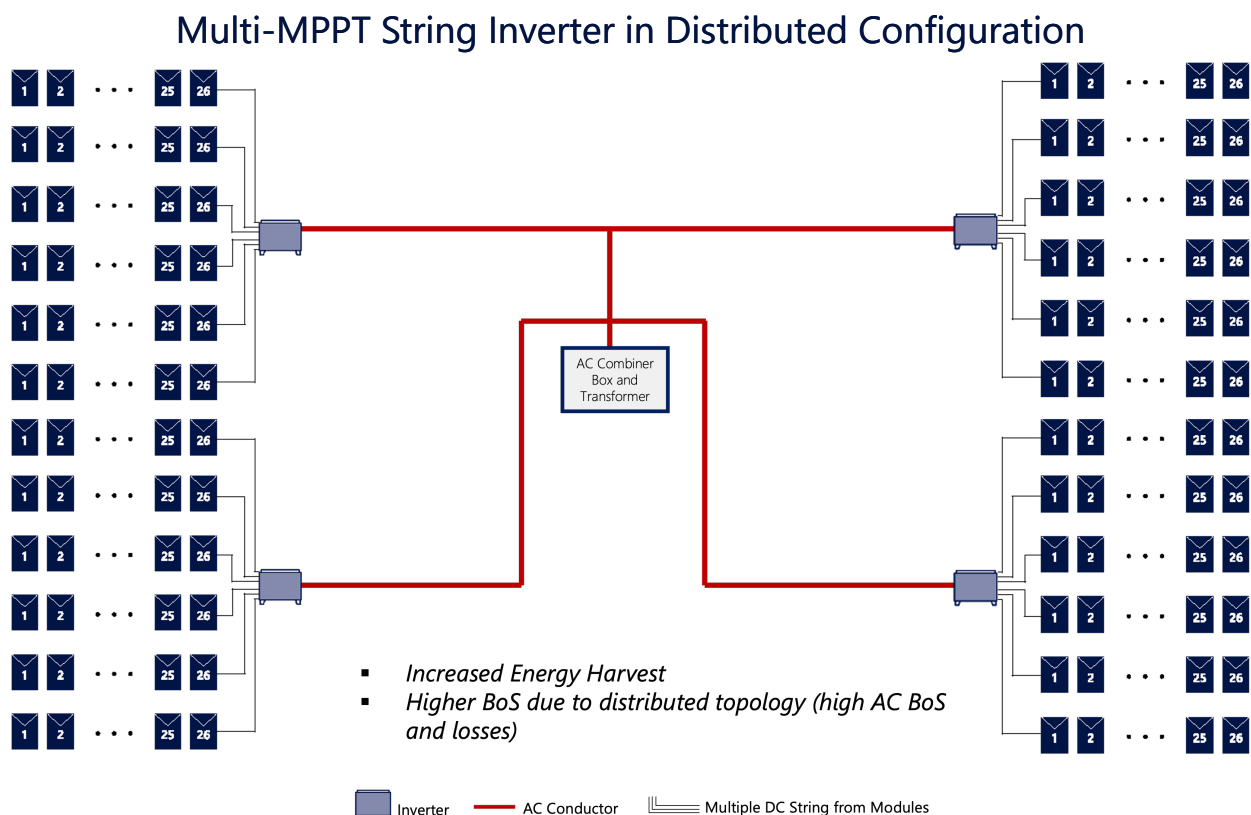

Figure 1 – Multi-MPPT Inverter String Inverter
- One with multiple maximum power point tracking (MPPT) inputs which provides 12 to 16 MPPT per inverter [see Figure 1]. This is the typical topology of a multi input string inverter. Each MPPT can accommodate up to 2 strings for a total of 24 or 32 strings.
In this traditional architecture, in the multi-MPPT string inverters [Figure 1], the inverters are distributed throughout the array. While this reduces DC BoS costs, it increases AC BoS costs and AC losses due to the long AC wiring runs. Additionally, as the DC:AC ratio increases, this configuration will experience greater disadvantages as it cannot take advantage of the free voltage drop that is possible during times of clipping. Another drawback is the higher cost of communication circuits to inverters spread across the array. The advantage of this configuration is that it allows for increased energy harvest due to the number of MPPT per inverter.